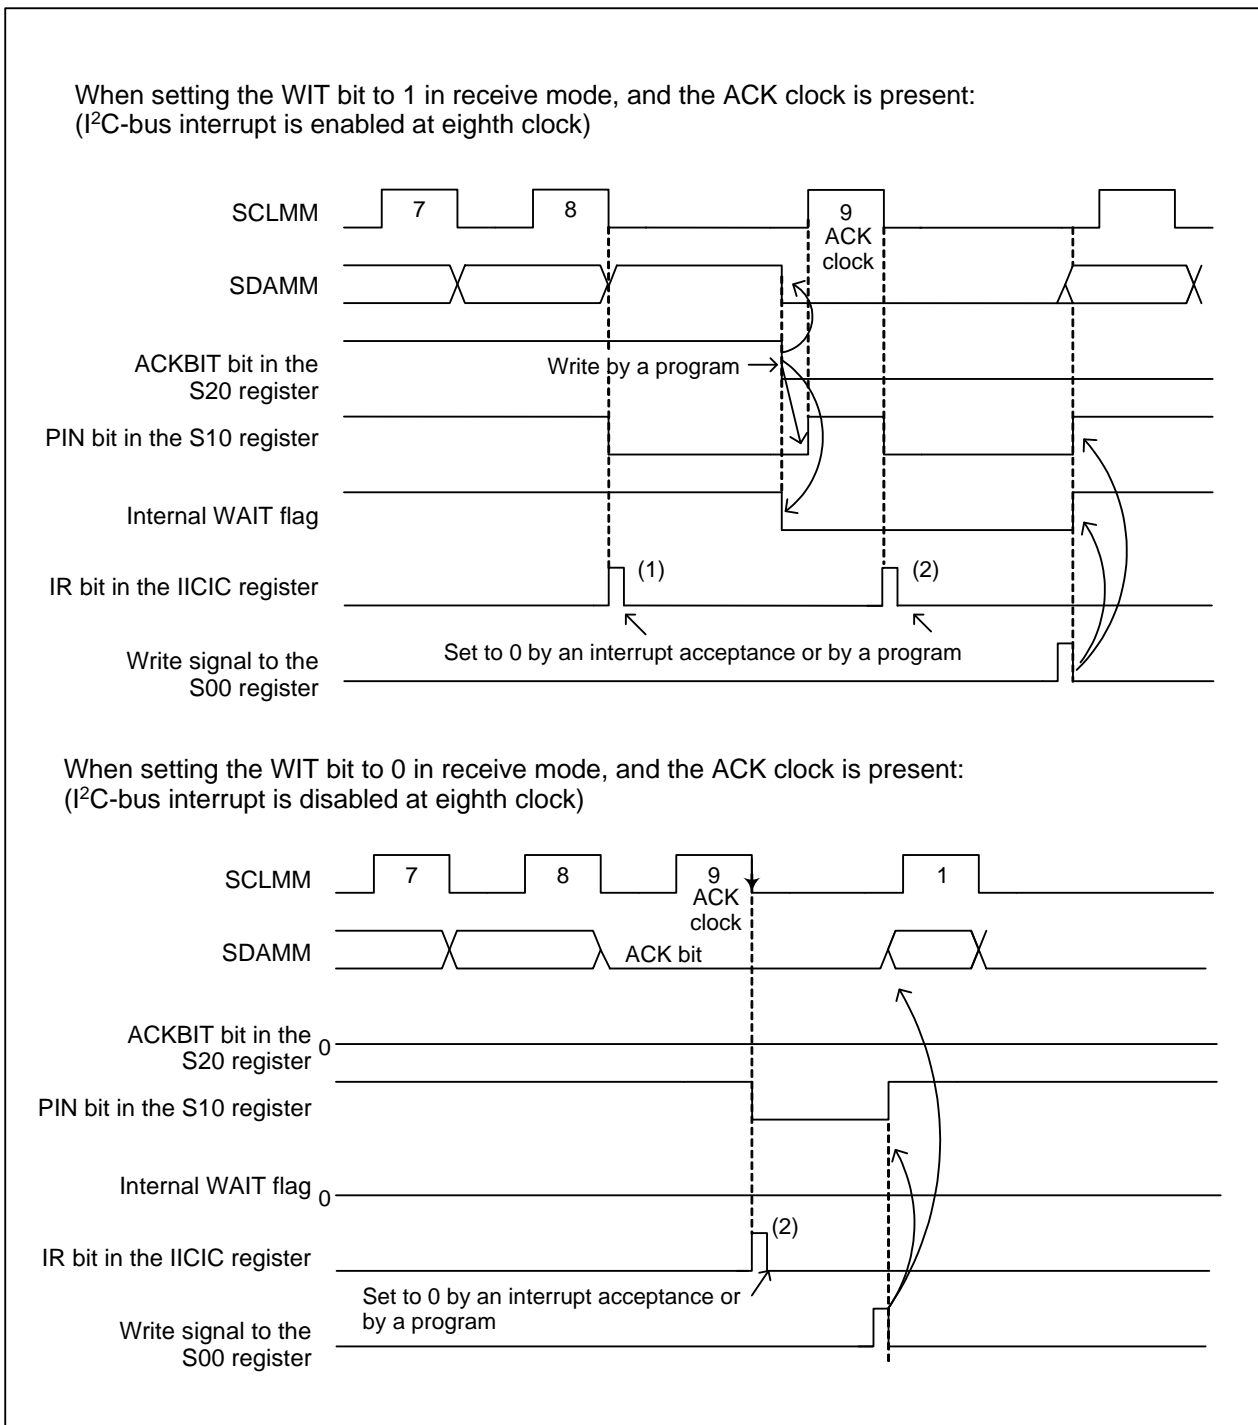

Figure 25.4 Interrupt Request Generation Timing in Receive Mode
Table 25.6 lists interrupt request generation timing and the conditions to restart transmission/reception when receiving data. Figure 25.4 shows Interrupt Request Generation Timing in Receive Mode.
1. See the timing of (1) on the IR bit in the IICIC register in Figure 25.4.
2. See the timing of (2) on the IR bit in the IICIC register in Figure 25.4.